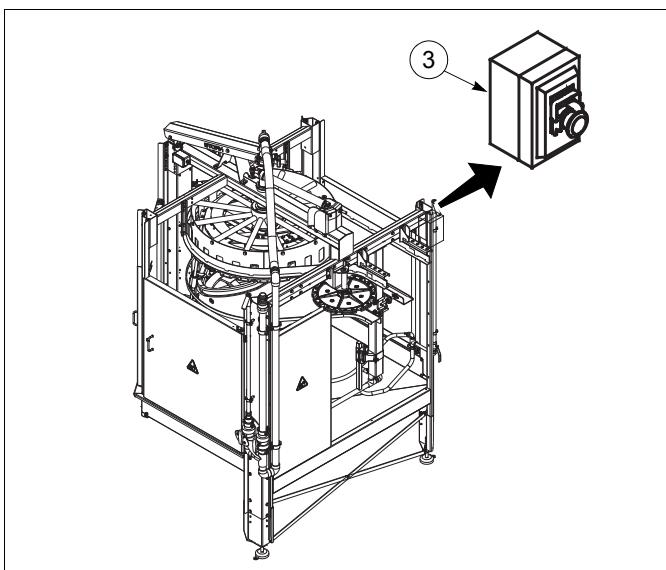

fig. 9 Emergency stop
- Emergency stop button 3 on the machine. See fig. 9.